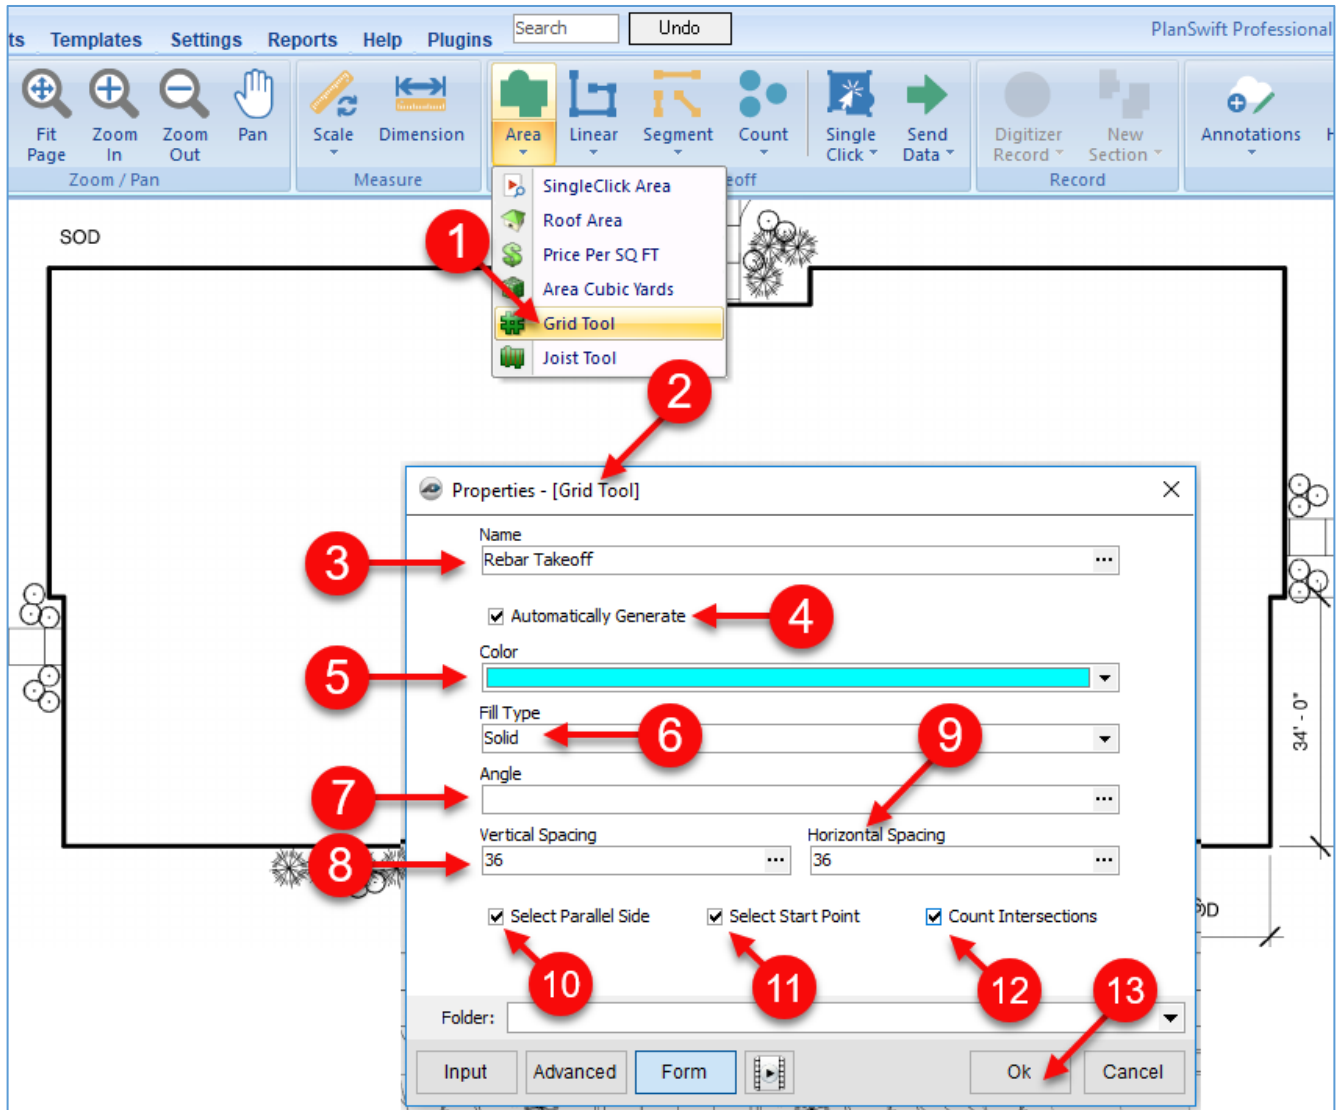

Figure 35-A
1. Perform the steps to do an area takeoff, then right-click and select **Stop** (Fig. 35-B).